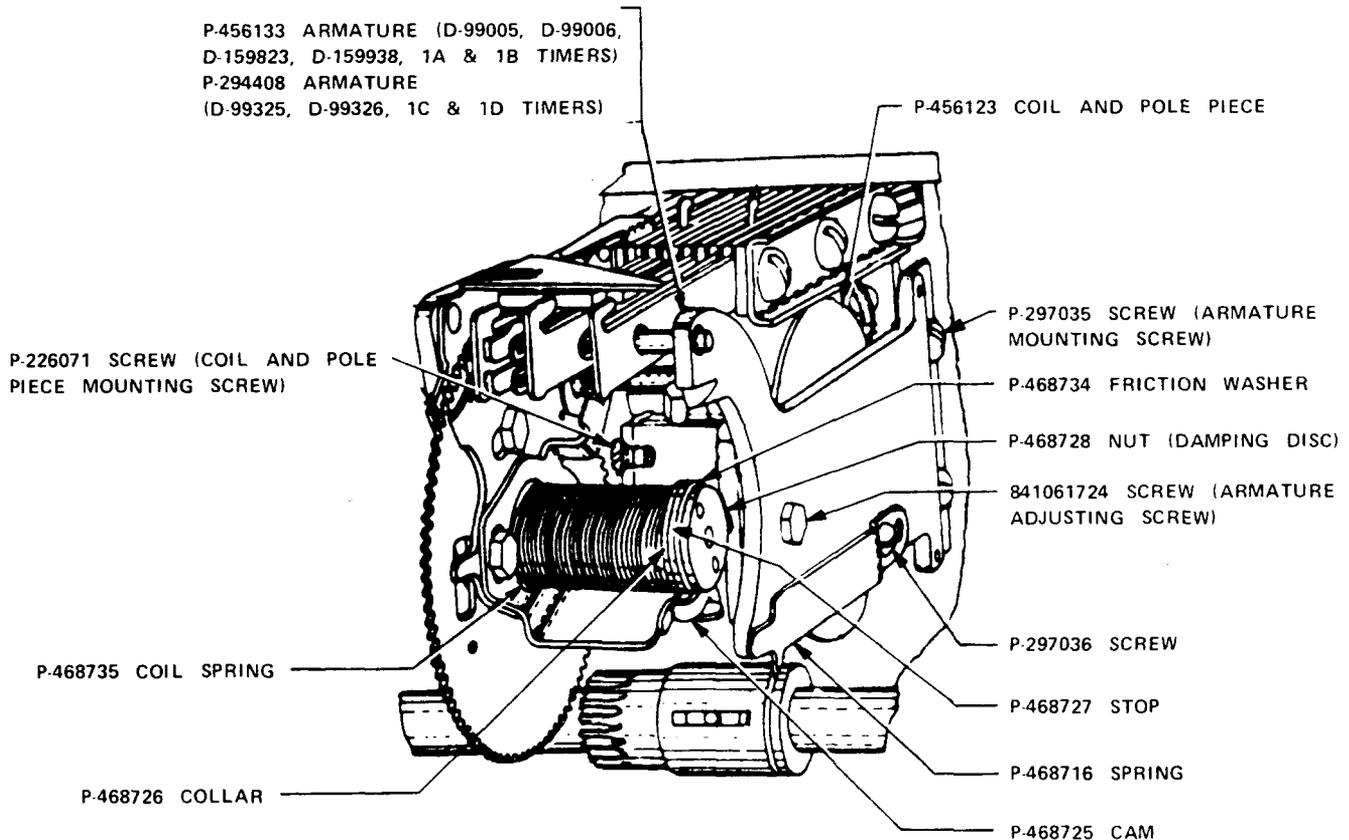

Fig. 1 — Timer and Pinion
3.01 Figures 1 through 3 show the relationship of the various parts of the apparatus. The piece part number of these parts are given with the names as listed by the Western Electric Merchandise Department.
- (2) Using the 551A wrench, remove the armature adjusting screw shown in Fig. 1.
- (3) Using the KS-6854 screwdriver, remove the armature mounting screws.
- (4) Remove the armature and mount the new armature in reverse order.